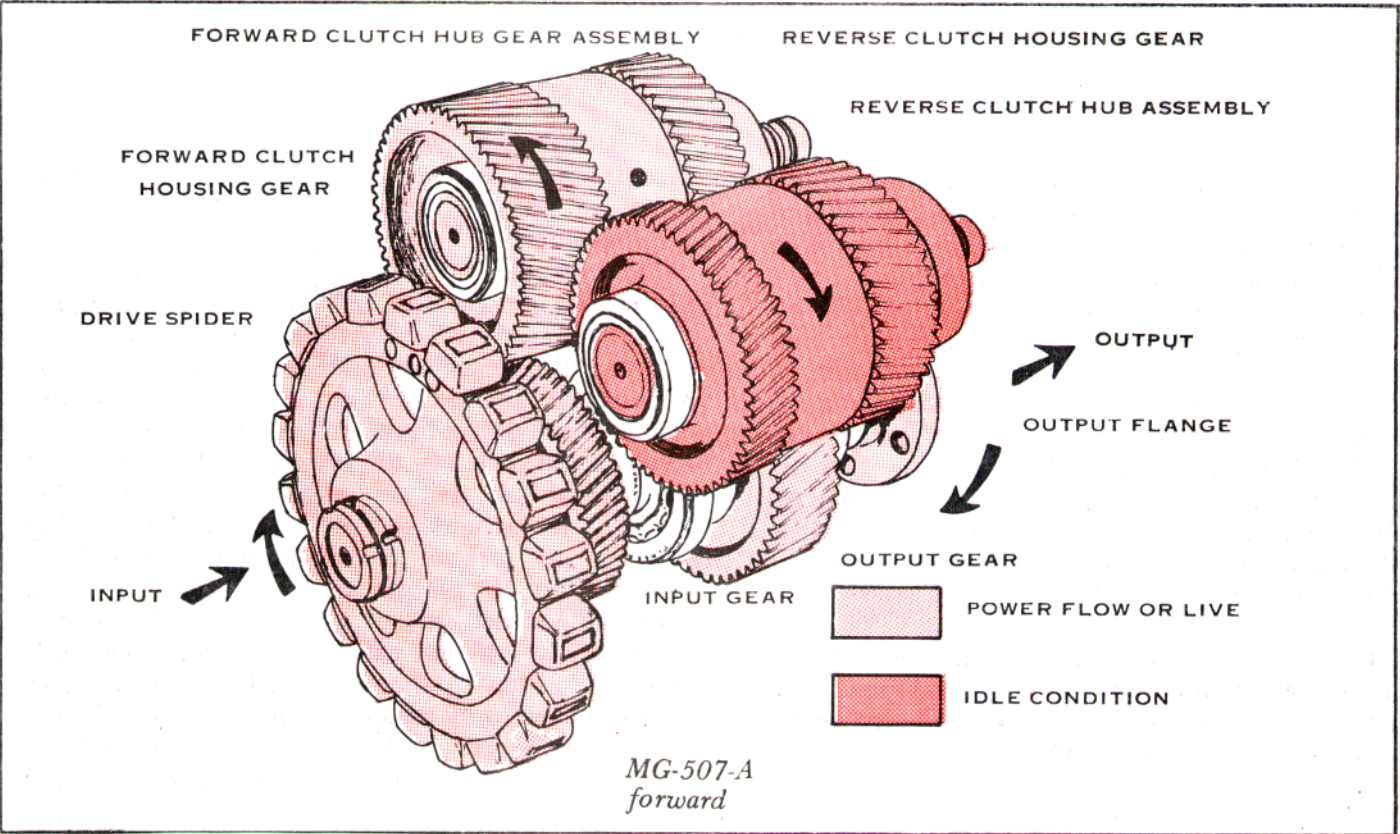

Figure 5. Model MG-507-A Marine Transmission Power Flow - Forward - Schematic View.
B. Forward (fig. 5). When forward speed is selected, all the marine transmission parts which were turning during neutral selection are still turning. However, when forward is selected, the forward clutch faced and metal plates are clamped together by the clutch piston and back plate. The internal teeth of the steel clutch plates are meshed with the smaller diameter external teeth of the clutch hub pinion assembly and turn the pinion gear at given ratio of engine speed and in anti-engine direction. The larger external gear teeth of the pinion gear are in constant mesh with the output gear which is press taper assembled on the output shaft. The output flange is spline-connected to the output shaft and, therefore, the flange rotates in engine direction when in forward. The output shaft and flange rotate at a speed that is reduced from the engine speed due to the overall ratio between the input gear and the output gear.